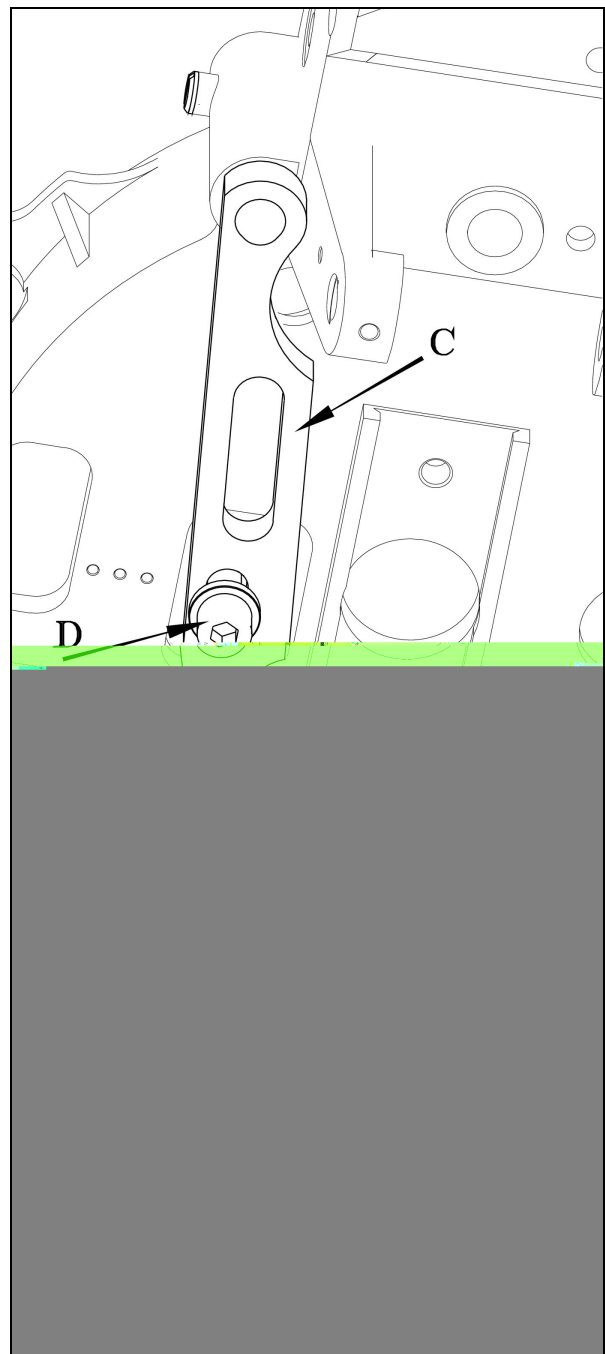
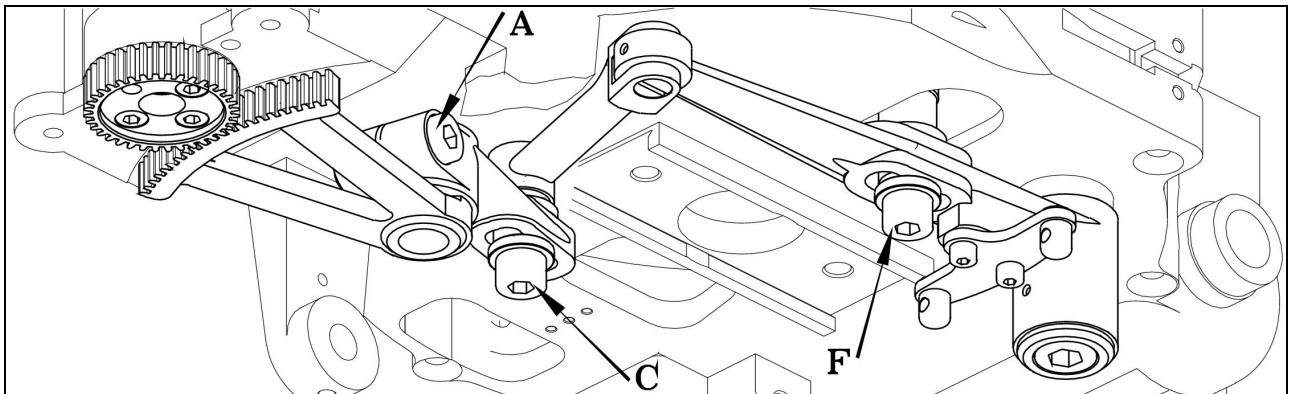

Fig 1
Fig 4
The lower race must be square with the bedplate when stitching the first and second sides of the buttonhole as in Fig 1. Loosen screw (A) in Fig 4 and move the lower sector.